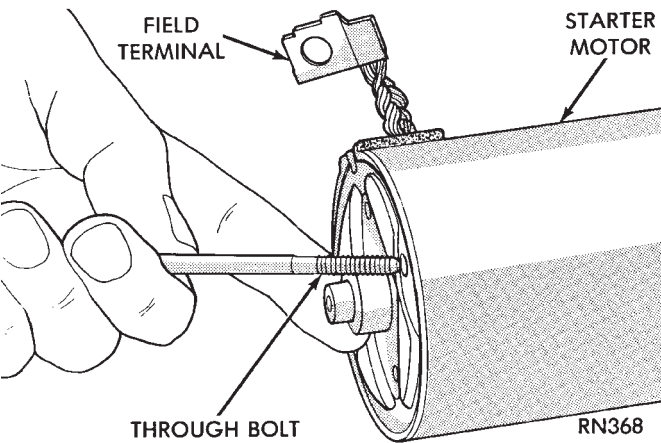

Fig. 19 Through-Bolt
- (2) Remove the two through-bolts securing the starter drive end housing to the motor housing (Fig. 19) and separate housings.